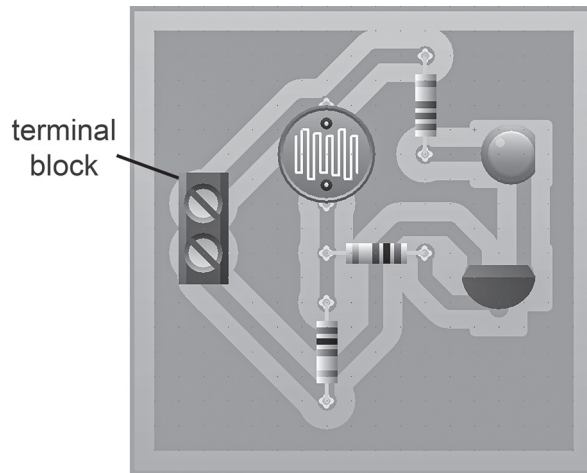

Fig. 12.7
- (ii) Fig. 12.7 shows a printed circuit board (PCB) layout that has been designed using CAD software.